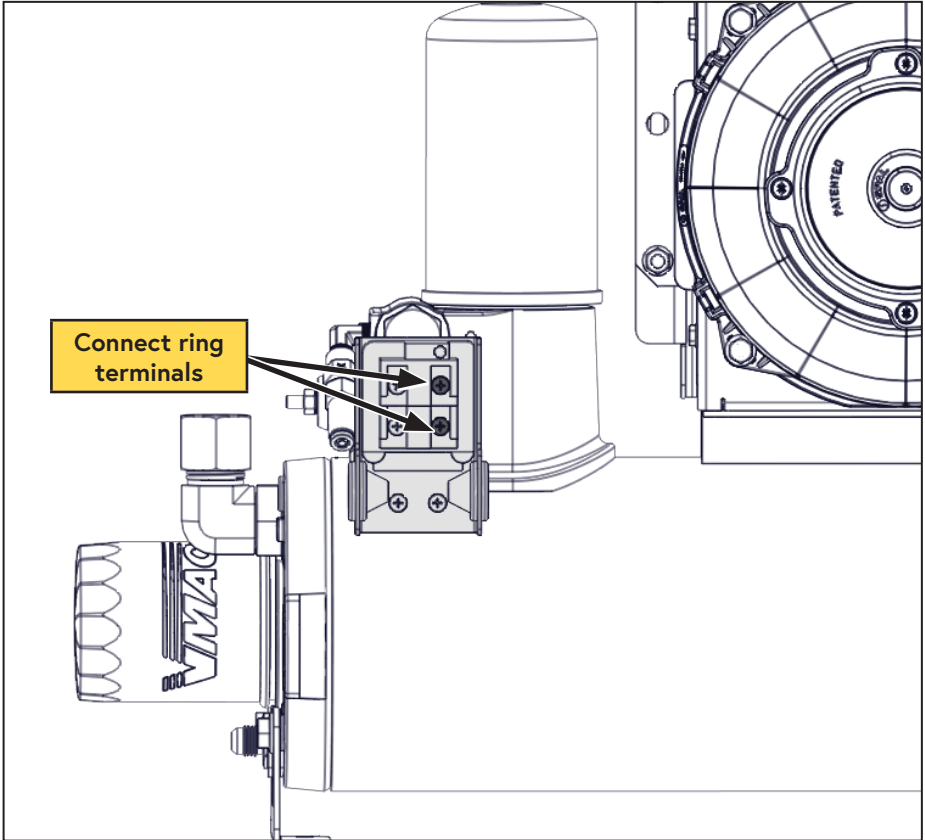

Figure 38 — Connect pressure switch
- Connect the ring terminals from the white wire running from the control module, and the grey wire running from the pressure switch (at the compressor), to the pressure switch on the WHASP Tank (these are not polarity dependent) (Figure 38).